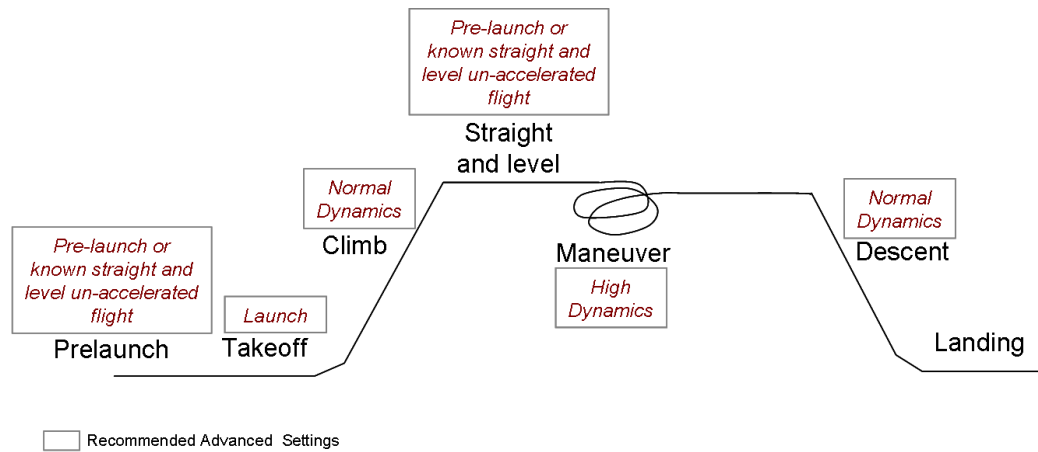

Figure 8 Typical flight profiles of fixed wing aircraft and the corresponding advanced settings
Figure 8 shows a typical flight profile of the fixed wing aircraft and the corresponding advanced settings that one can configure adaptively depending on a flight phase:
- **Straight and level flight** is the phase of flight in which an aircraft reaches its nominal flight altitude and maintains its speed and altitude. The aircraft is under equilibrium (See Figure 8).
- **Maneuver** is the phase of flight in which an aircraft accelerates, decelerates, and turns. The aircraft is under non-gravitational acceleration and/or deceleration (See Figure 8).
- **Descent** is the phase of flight in which an aircraft decreases altitude for an approach to landing. The aircraft is under vertical deceleration until it captures a glide slope (See Figure 8).
- **Landing** is the last part of a flight, where the aircraft returns to the ground (See Figure 8).